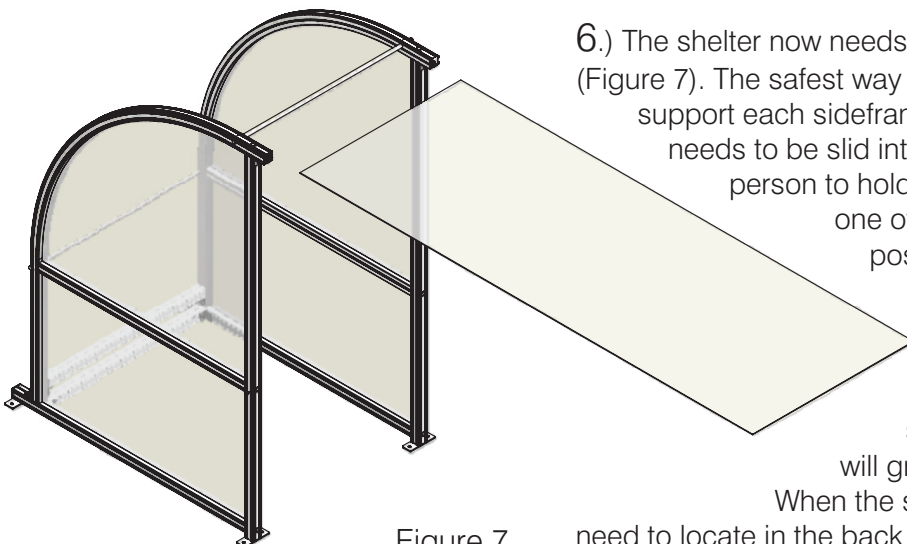

Figure 7.
6.) The shelter now needs to be lifted into the upright position (Figure 7). The safest way to do this is to have one person support each sideframe. At this point the back sheet (9) needs to be slid into place. This is a 2/3 person task, one person to hold and support the weight of the sheet, one other to guide and push the sheet into position whilst one other person pulls the sheet down into position. The sheet needs to slide into the recess of the extrusion of the bent supports, where the rubber is located. the sheet must slide in square, otherwise it will grip on the rubber and will not slide in.